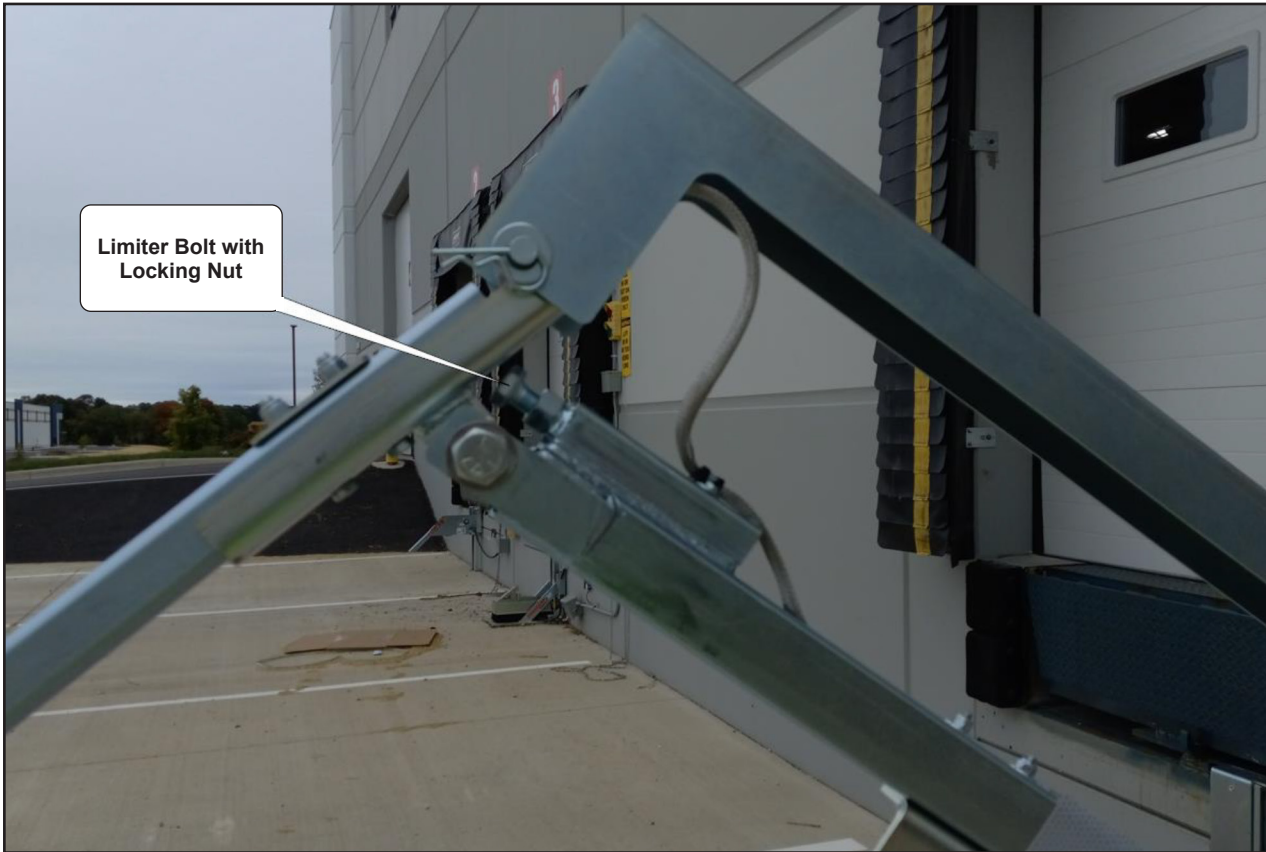
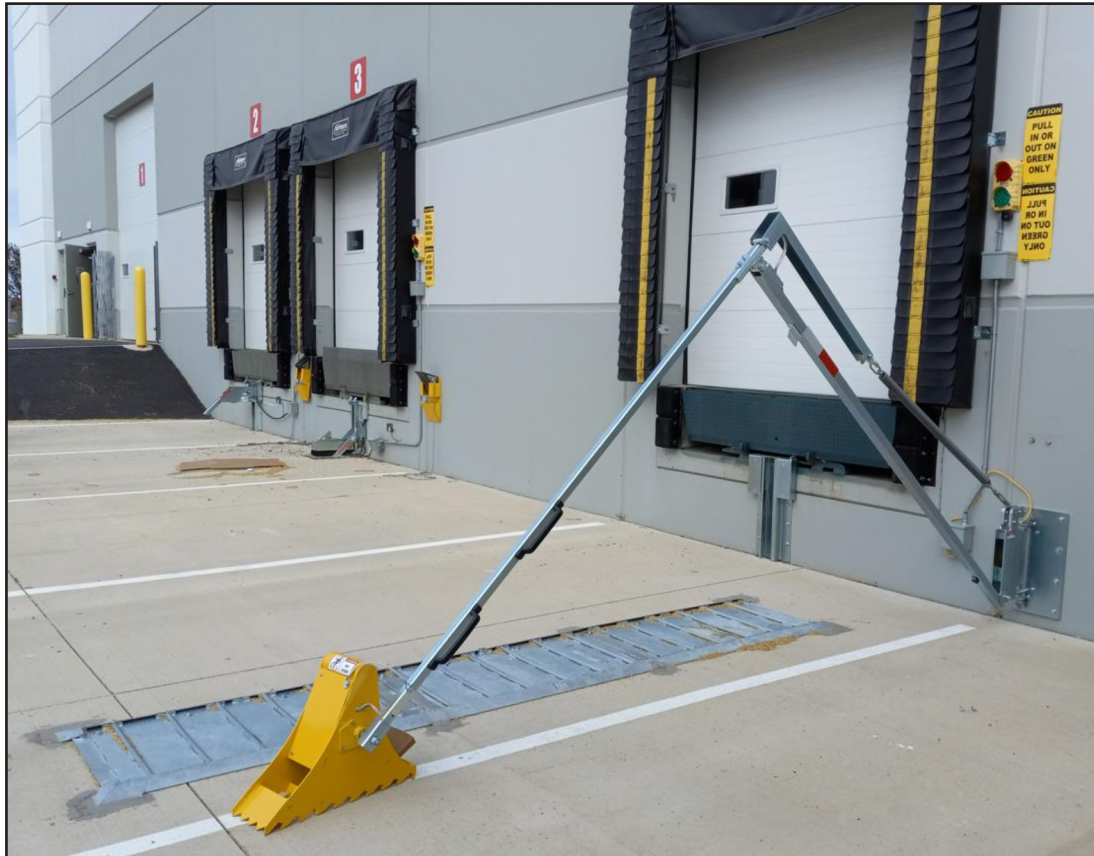

Figure 51
Figure 52
Whenever maintenance is to be performed under the dock leveler platform, support the platform with maintenance prop (C). Position the maintenance prop behind front header plate (D) while staying clear of the lip. The lip will fold down after the platform has rested on the maintenance prop. Lock the maintenance prop in the service (upright) position using an OSHA approved lockout device* (A) and tag out device* (B). See Figure 51 and Figure 52.